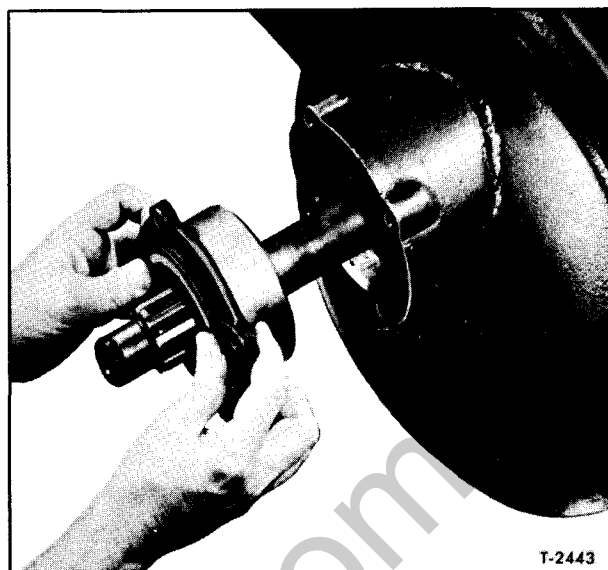

Figure 11—Removal or Installation of Thru-Shaft Rear Bearing, and Retainer
washers attaching cover to rear of axle housing. Remove cover assembly with oil seal and bearing (fig. 11).
5. Install thru shaft into housing (fig. 11). As shaft is pushed forward, slide clutch gear over forward end of shaft.